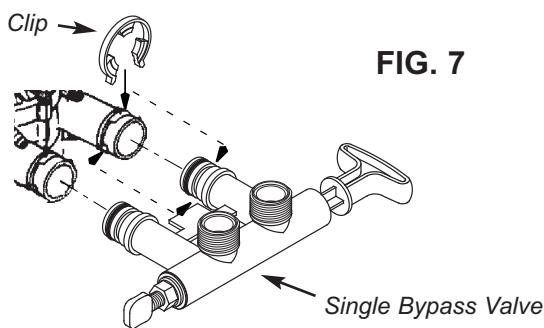

FIG. 7
11. Push the single bypass valve into the softener valve as far as it will go. Snap the two large holding clips into place, from the top down as shown in Figures 7 & 8. Be sure the clips snap firmly into place so the single bypass valve will not pull out.